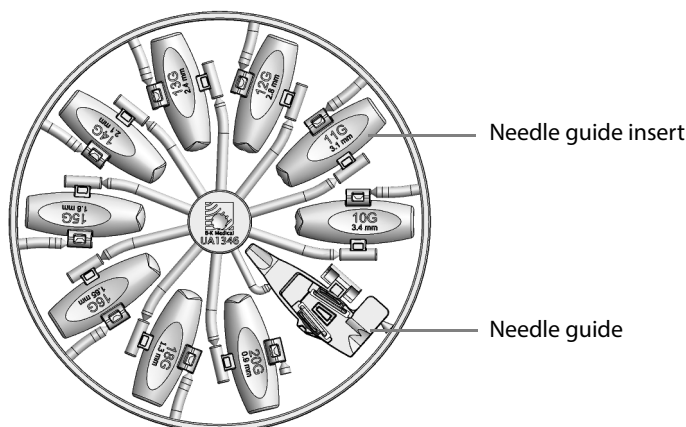

Figure 11. Palette with needle guide UA1346 and needle guide inserts.
- 2 Select the needle guide and the required needle guide insert by breaking them off the palette, see Figure 11.